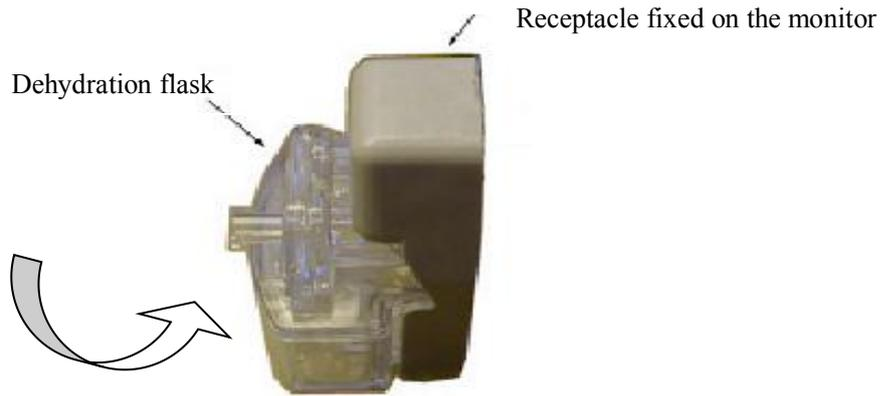

Fig.5-7-1 The installation sketch map of dehydration flask
- According to the Fig. 5-7-1, snap slantways dehydration flask on the receptacle fixed on the right panel of monitor. It will click into place when properly seated.